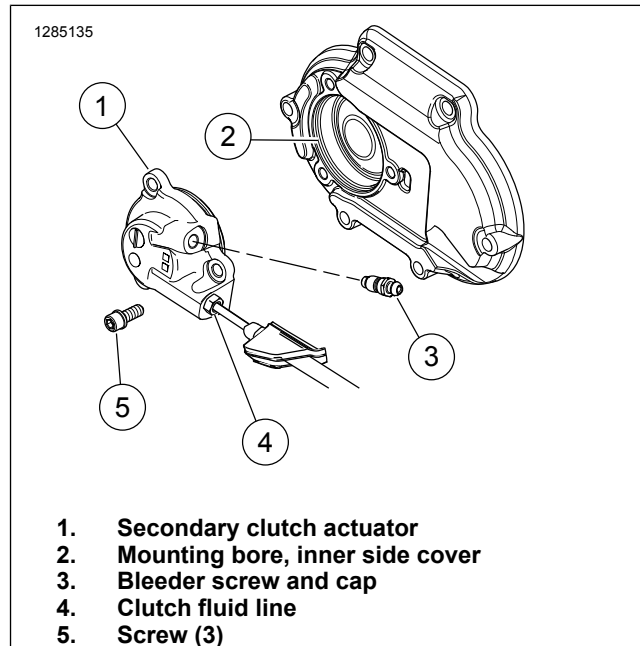
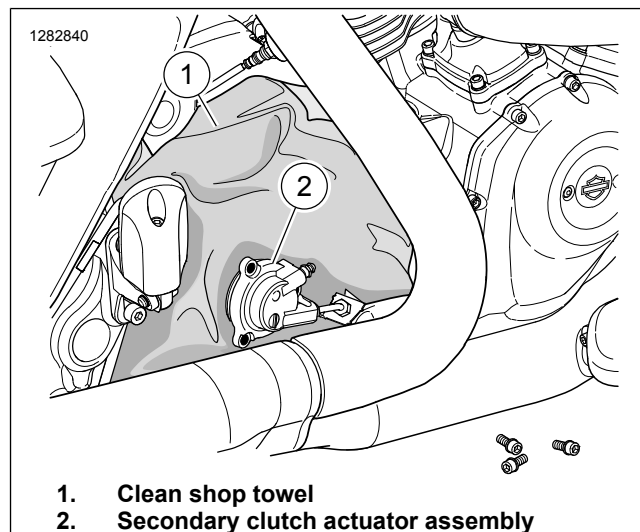
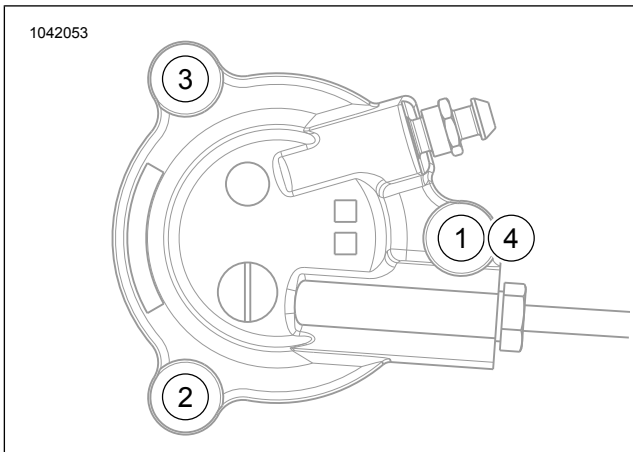

Figure 1. Secondary Clutch Actuator
Figure 2. Towel In-Place on Transmission
Figure 6. Secondary Clutch Actuator Torque Sequence
- **Do not disconnect clutch fluid line (4).**
2. Refer to Figure 1. Remove secondary clutch actuator (1) from inner side cover mounting bore (2).
- a. Remove screws (5) and secondary clutch actuator.
3. Refer to Figure 2. Place **clean** lint free shop towel over transmission inner side cover at secondary actuator bore.
2. Refer to Figure 1. Install secondary clutch actuator (1).
- a. Lubricate mounting bore (2) in the inner side cover with a film of transmission fluid.
- b. Install secondary clutch actuator (1) and screws (5).
- c. Refer to Figure 6. Draw screws down evenly to prevent binding and possible breakage of mounting ears. Tighten in sequence.